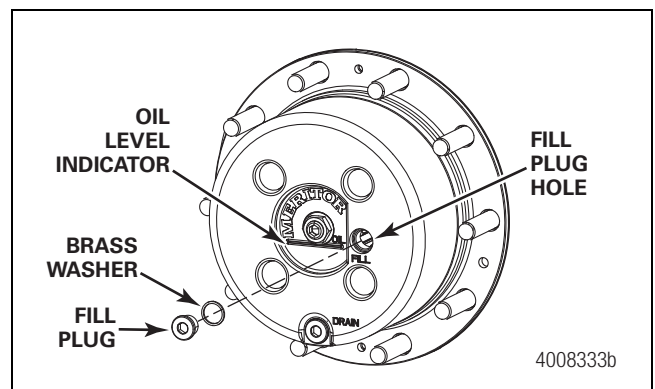

Figure 19.7
2. Rotate the wheel-end fill plug to the 3 o'clock position (fill line will be horizontal) and remove the wheel-end fill plug and brass washer. Figure 19.7.